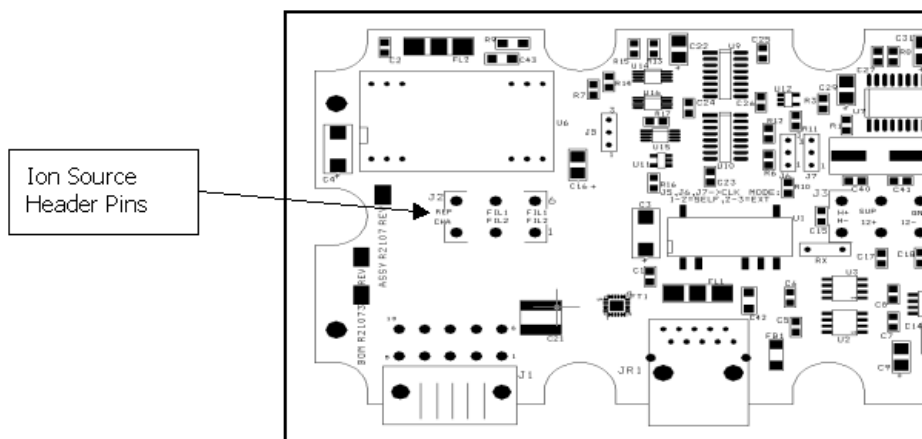

Figure 17: Ion Source Header Pin Schematic
26. On the PCB, use the resistance meter to verify an open circuit between any two of the six ion source header pins (except FIL-1 to FIL-1 and FIL-2 to FIL-2 which should be 0.3 Ohms or less). Also verify an open circuit between the body of the spectrometer and any of the ion source header pins (Figure 17: Ion Source Header Pin Schematic). If there is continuity (short circuit) at any of the points, remove the header and inspect for shorting.